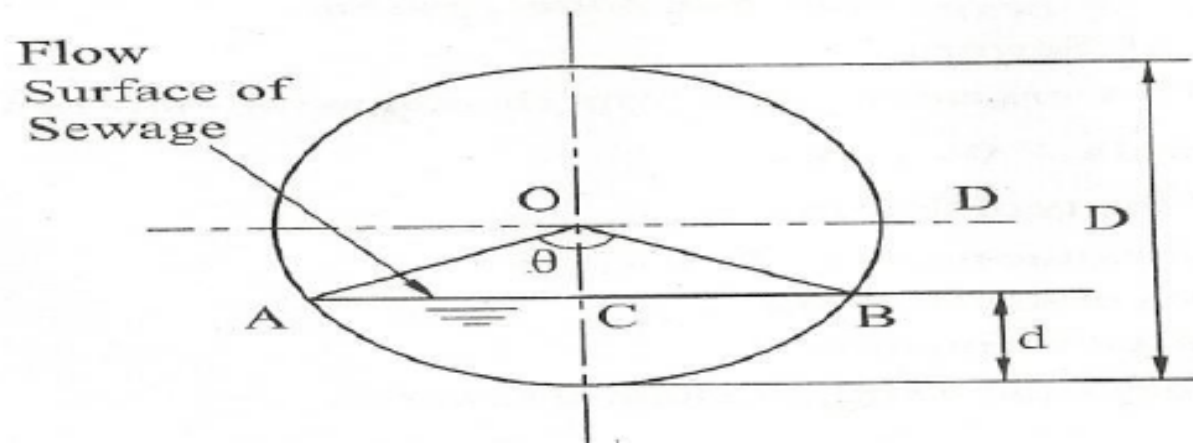

Fig. 8.6
- (2) Circular section running partially full (Refer fig. 8.6),